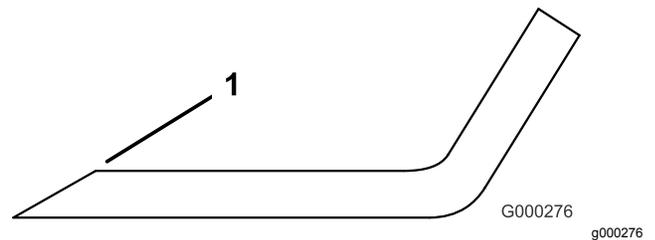

Figure 57
1. Use a file to sharpen the cutting edge at both ends of the blade (Figure 57).